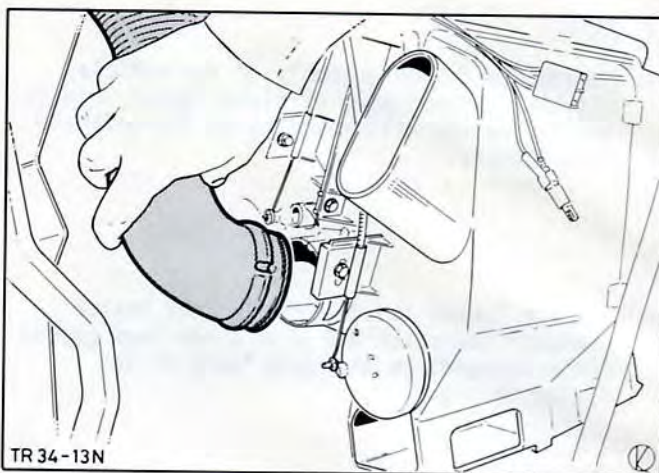

Fig.16. Attach air hoses to heater casing.
10. Attach the air hoses (4) of the demister and vent nozzles to the connectors on the heater casing, Fig.16.